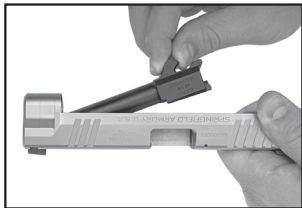
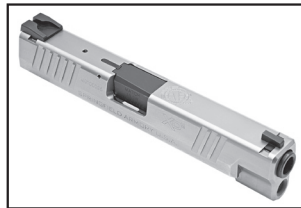

Figure 26-1
Figure 26-2
**NOTE: REASSEMBLY PROCEDURES ON THE XD(M) ARE THE SAME REGARDLESS OF CALIBER.**
1. Install barrel into slide (See Figure 26-1) insuring that the top of the chamber of the barrel is flush with the top of the slide (See Figure 26-2.)